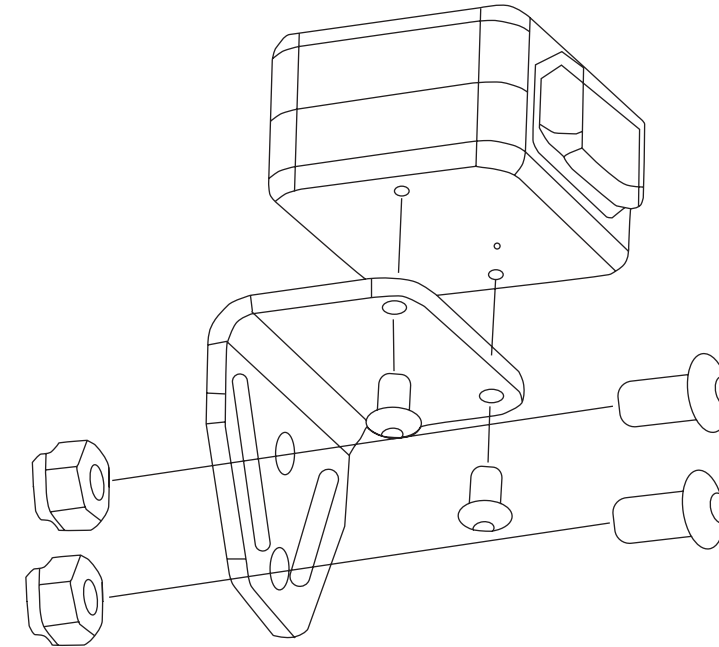

Fig. 4
1. Switch is usually installed on left handlebar on ATVs. If installing on UTV or SxS, use supplied bracket and hardware as shown in Fig. 4. This bracket can be placed in any location that is convenient.